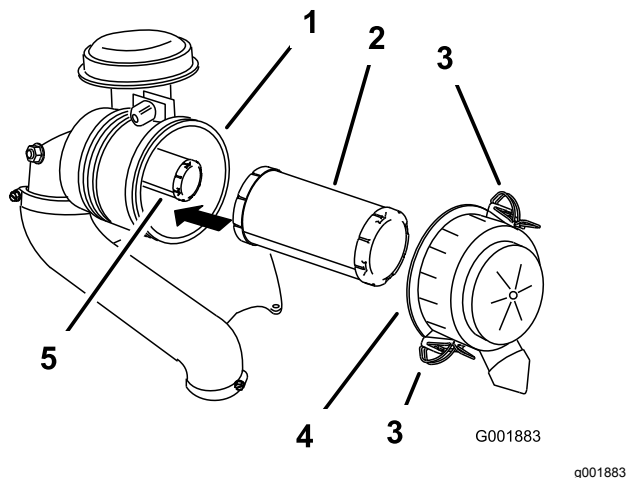

Figure 45
3. Release the latches on the air cleaner and pull the air-cleaner cover off the air-cleaner body (Figure 45).
5. Gently slide the primary filter out of the air-cleaner body (Figure 45).
2. If you are replacing the inner filter, carefully slide it into the filter body (Figure 45).
3. Carefully slide the primary filter over the safety filter (Figure 45).
4. Install the air-cleaner cover and secure the latches (Figure 45).